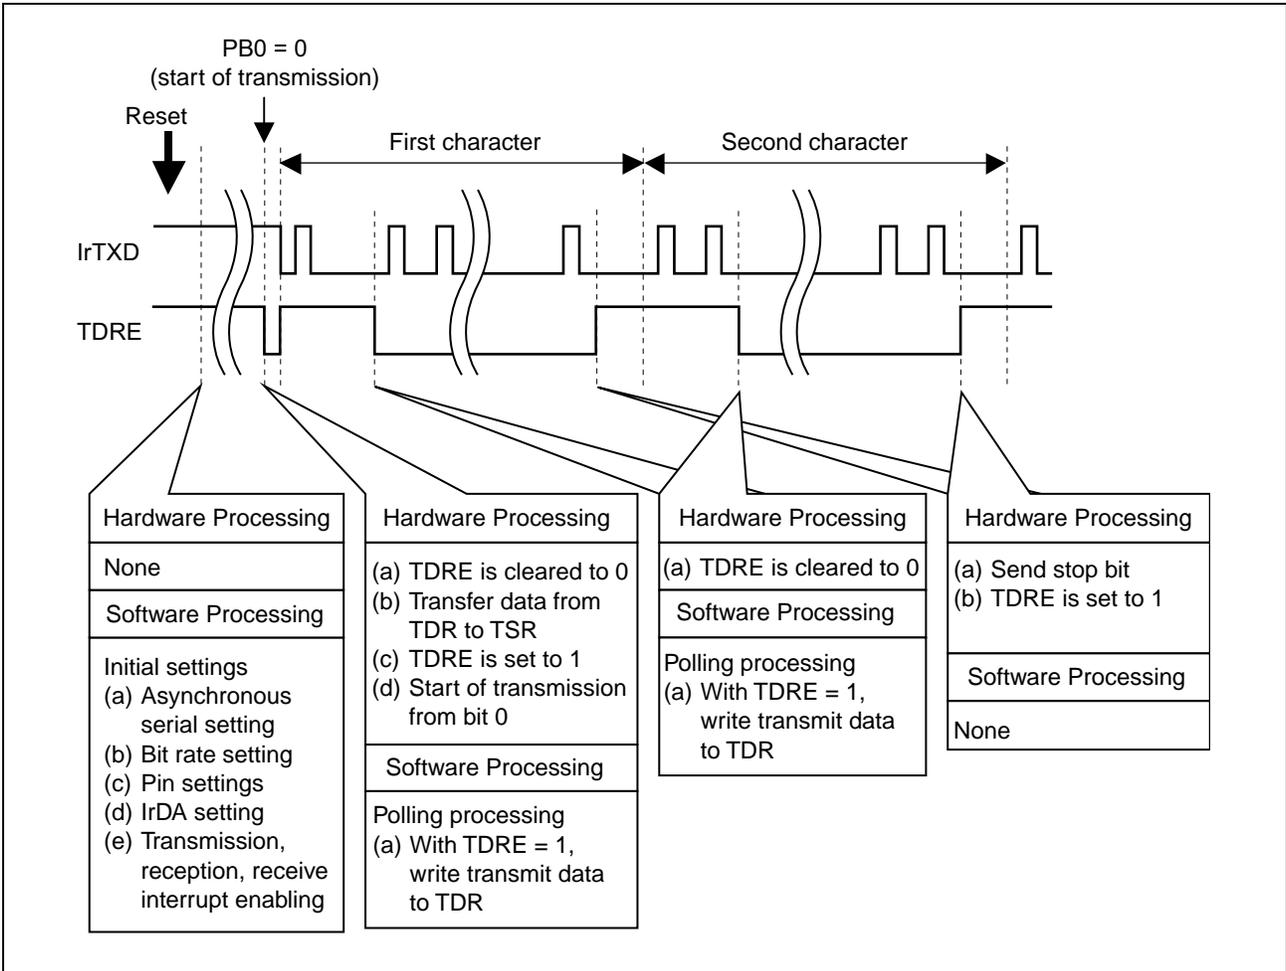

Figure 4 Principles of IrDA Transmit Operation
- In IrDA communication, transmission is performed by encoding an asynchronous mode UART frame and converting it to an IR frame, and reception is performed by converting an IR frame to a UART frame. The relationship between a UART frame and IR frame is shown in figure 4.
The principles of a transmit operation are illustrated in figure 4. IrDA transmission is performed using the hardware and software processing shown in figure 4.